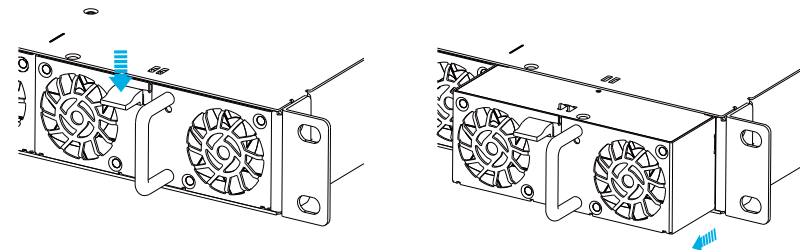

Figure 3-3 Illustration of how to remove NCP-3200 from a DHP-1UT-B(HV)
- Pull out units: Press the clip shown in Figure 3-3 and pull it out.